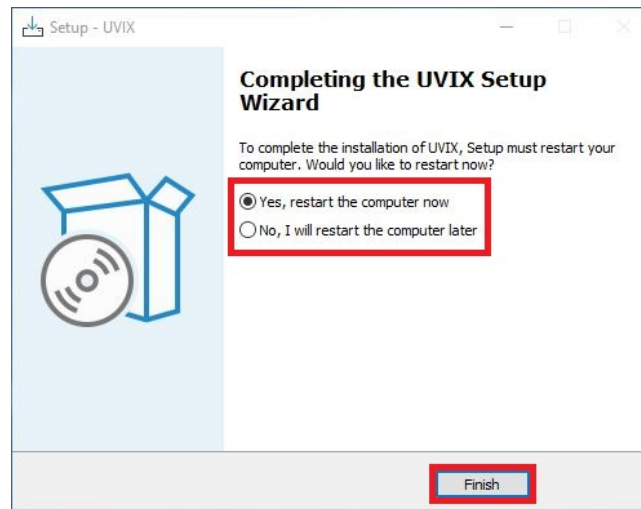

Figure 4.30: Restart Options
20. Select whether you want to restart your PC immediately or at a later time and click "Finish," as shown in figure 4.30.